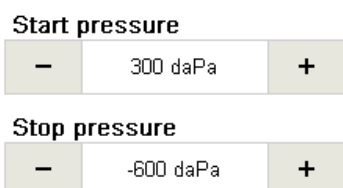

Figure 141
**Stop pressure:** the end pressure of the **ETF – Intact** measurement (Figure 141).